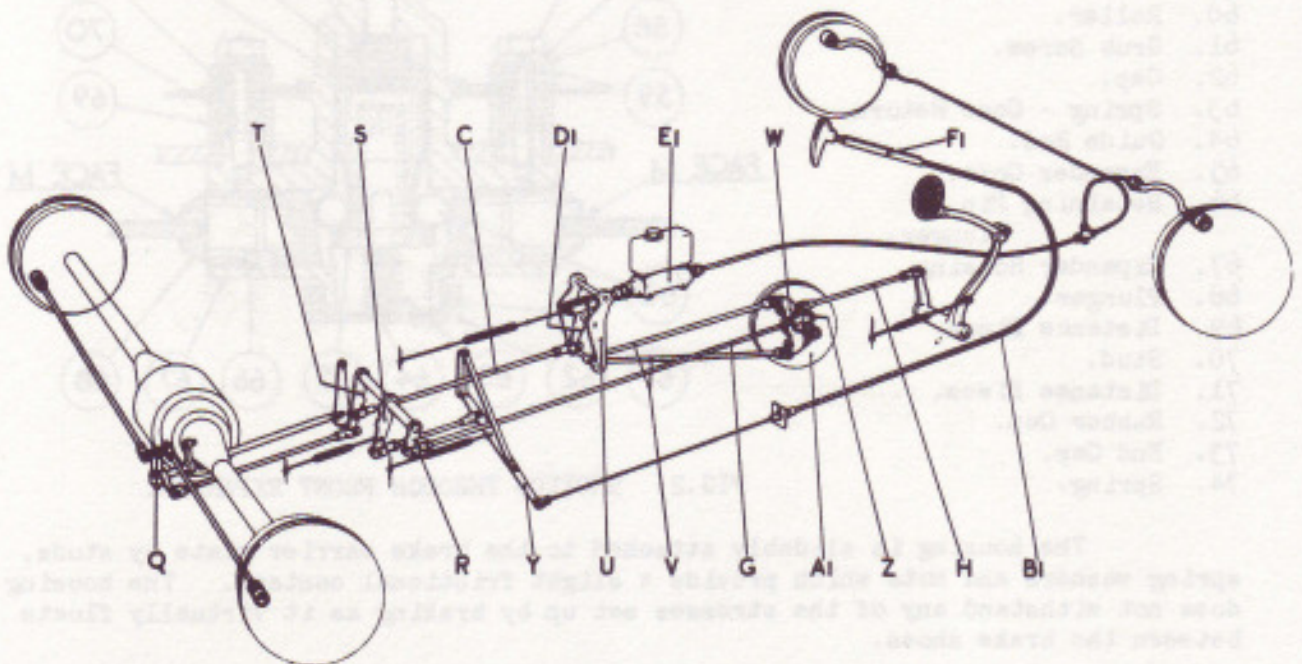

FIG.1. DIAGRAM OF BRAKING SYSTEM.
A diagram of the system is given in Fig.1.
A pull rod (H.Fig.1), operated by the pedal, is coupled to a lever (W), on the servo motor shaft, the motor itself (A1) being mounted on the off-side of the gearbox, and driven at approximately one-tenth of the propeller shaft speed.
The dashboard hand brake (Pl. Fig. 1), is mounted under the fascia board, convenient to the driver's right hand. The ratchet release is so arranged, that should it be inadvertently knocked or pressed, the brakes will not be released. In order to release the brakes, the trigger must be fully depressed and held in this position. The hand brake is then pulled, as if